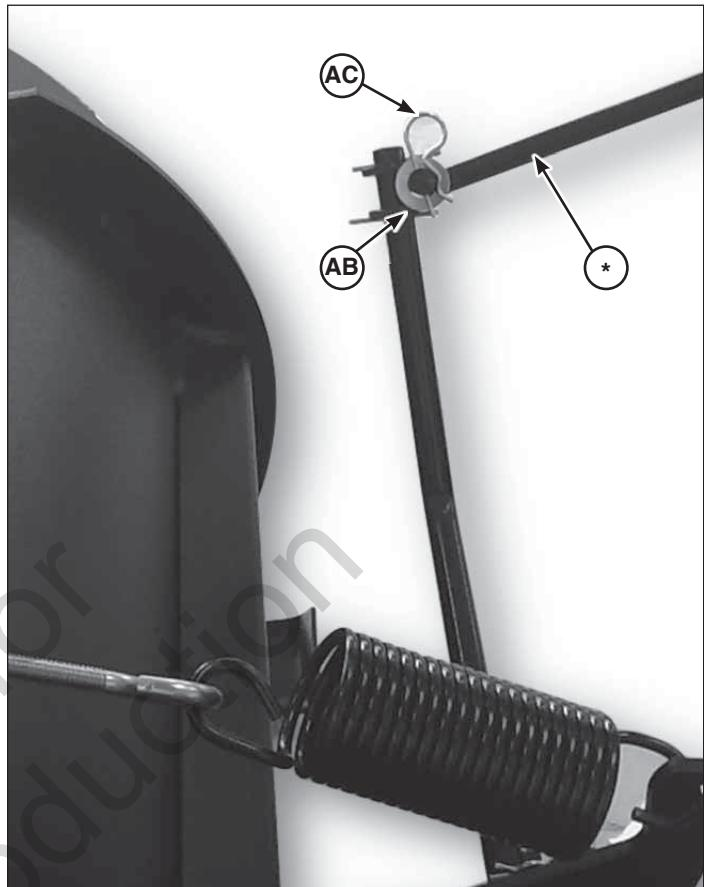

Figure 24
9. Insert handle assembly (\*, Figure 24) through clevis on blade release lever. Secure with washer (AB) and hair pin (AC).